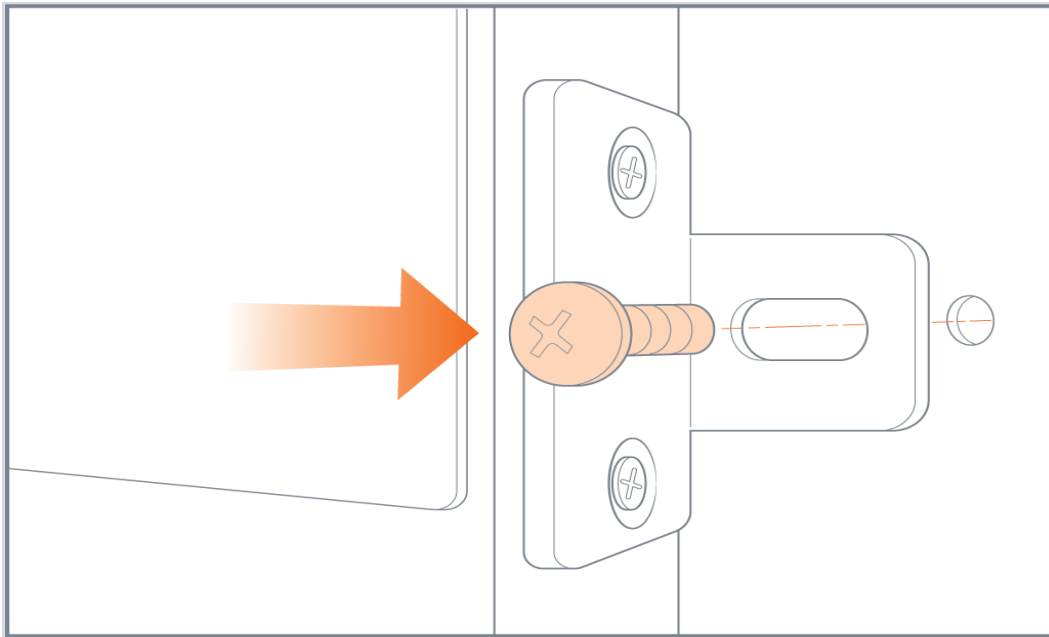

Figure 4: Locking Rack Ear Attached to Rack
8. Insert the screw through the locking rack ear on the chassis to secure the node in place and keep it from sliding out of the slide rail. Tighten the screw. Refer to Figure 4: Locking Rack Ear Attached to Rack on page 55.